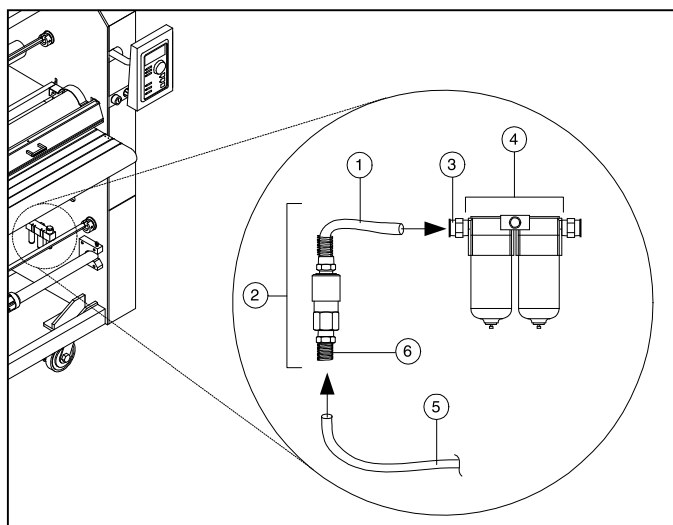

Fig. 4
7. Connect the pneumatic tube (1) from the included coupler kit (2) to the input side (3) of the filter assembly (4). (Figure 4)
8. Connect air from your compressor (5) to the opposite end (6) of the included coupler kit. (Figure 4)